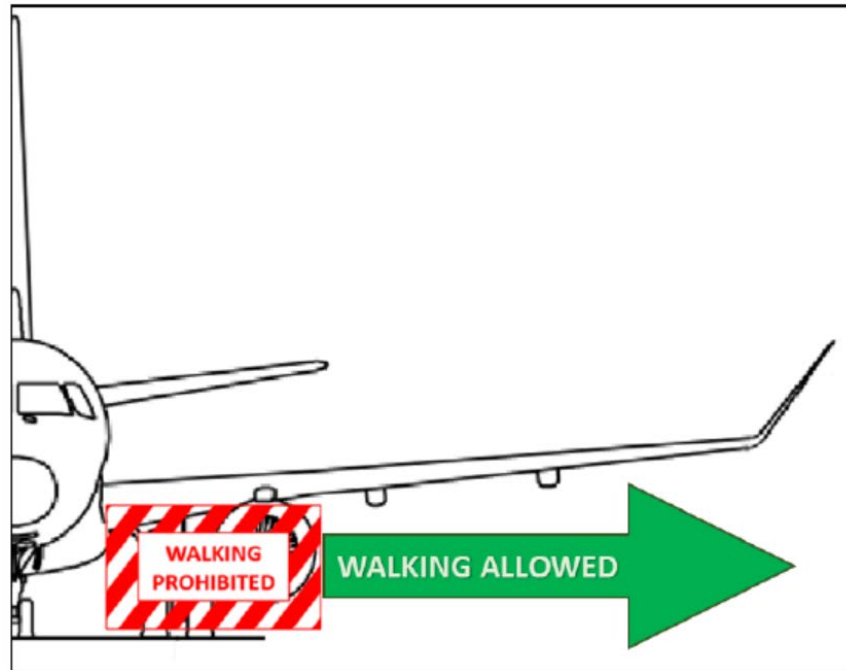

Figure 2-4: E-175/737 Walk Under the Wing Zone
3. For the E-175 and 737 aircraft fleets, walking underneath the wing of the aircraft from the outside edge of the engine cowling to the wingtip is permissible for fueling related tasks. Refer to Figure 2-4: "E-175/737 Walk Under the Wing Zone" for a visual representation of where walking is always permitted. If necessary for aircraft fuel servicing to go between the aircraft fuselage and the inner edge of the cowling, use caution to prevent damaging the aircraft and maintain awareness of your surroundings to prevent injury.